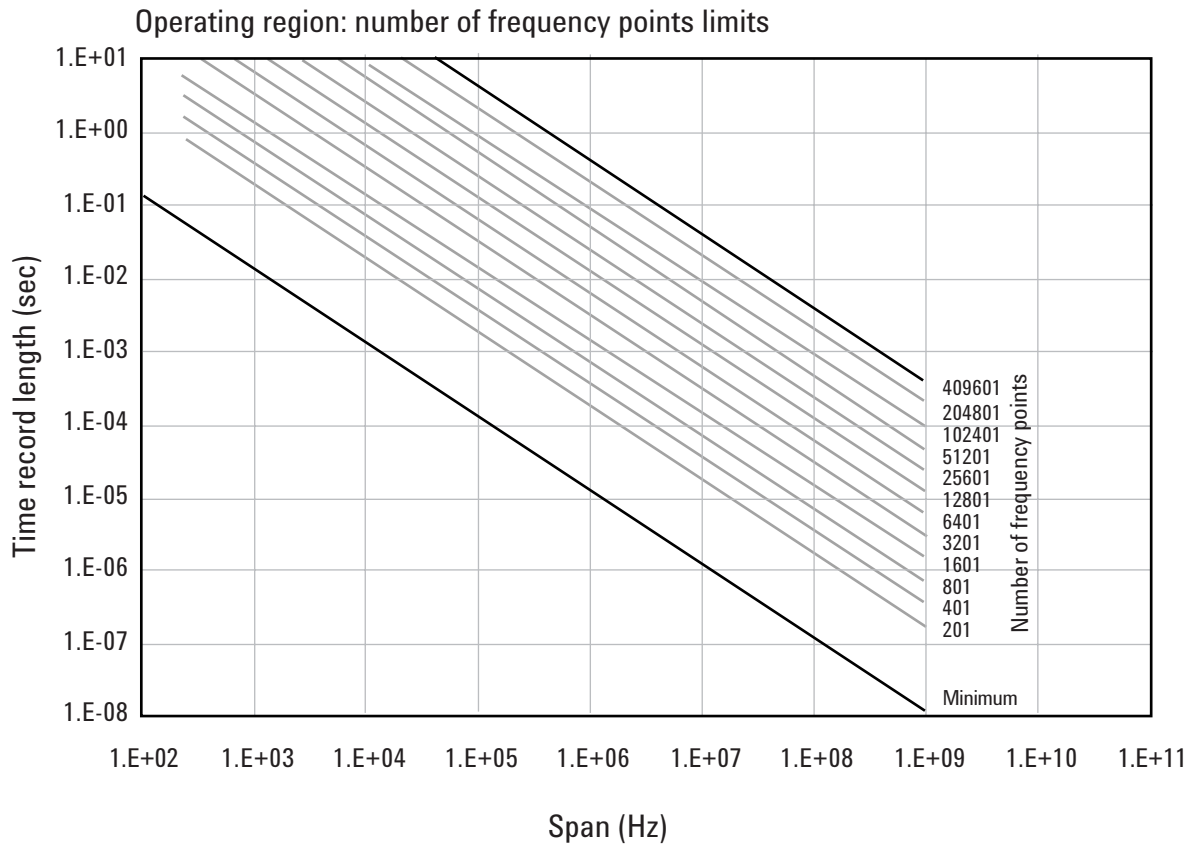

Figure 3. The user-settable parameter, frequency points, begins to determine the boundaries of the time record length and frequency span operating region.
The operating region is described in terms of span and time record length. For a given window type it could just as easily be described in terms of span and RBW. Figure 3 shows the effects of the number of time points the 89600 VSA software is allowed to collect. Because sample spacing is inversely proportional to span, the record length decreases as span increases. Although a family of lines is shown, only two define the operating region at any one time. The lowest line gives the smallest time record length allowed for any given span. The position of this line is determined by minimum number of time points (16) the VSA requires in a time record. The line that defines the upper time record length boundary is positioned by the maximum number of time points the VSA allows in a time record. The maximum number of time points is determined by the Frequency Points setting (**MeasSetup/ResBW-Frequency Points**). The 89600 VSA is constrained to operate in the region between these two lines. Note that the operating lines of Figure 3 are the same for all Infiniium models.